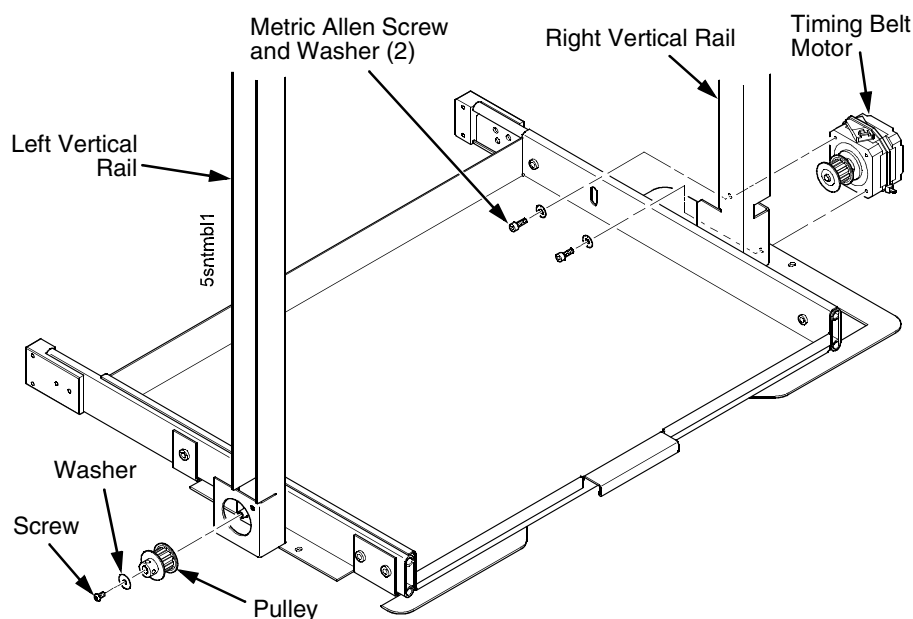

Figure 95. Removing the Timing Belt Pulley and Motor
3. If you are removing the left timing belt, remove the screw and washer from the pulley at the bottom of the left vertical rail, and remove the pulley. (Figure 95.) Go to step 6.
4. If you are removing the right timing belt, remove the two metric Allen screws that secure the timing belt motor to the right vertical rail. (Figure 95.) Go to step 5.